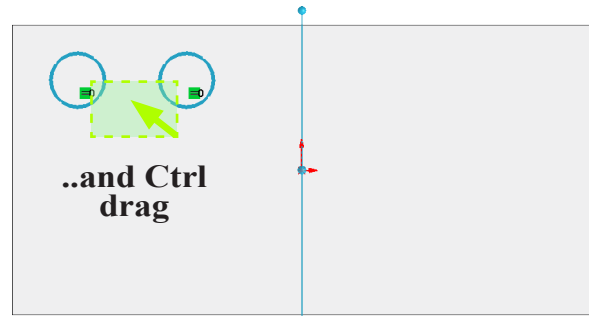

Fig. 27
Step 9. And **Ctrl drag** a selection to **select both circles and the Plane**, **Fig. 27**.